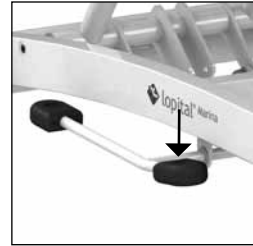

Figure 8 Moving downwards.
- The stretcher is lowered by depressing the short part of the foot pedal (See figure 8).